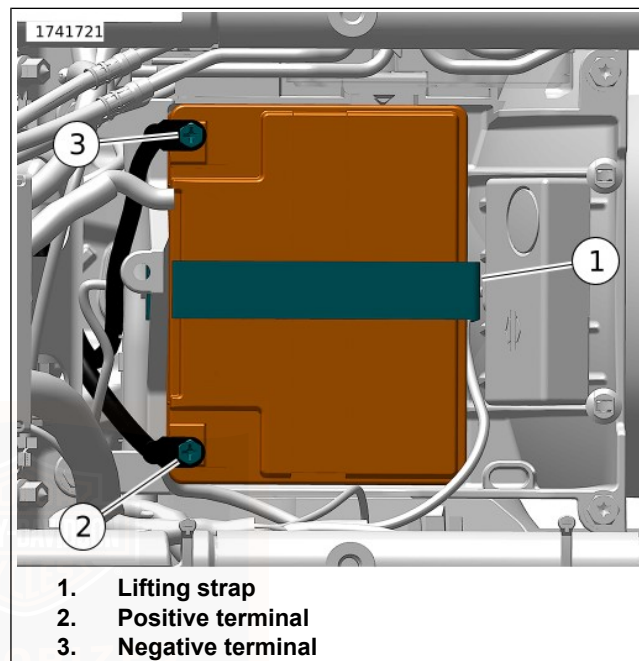

Figure 110. Battery Compartment
10. See Figure 110. Disconnect both battery terminal screws (2, 3), negative battery terminal first.
11. Pull up battery lifting strap (1) to raise battery. When battery is extracted far enough to get a good grip, grasp battery and remove completely.
3. See Figure 110. Place the battery into the battery tray, terminal side forward.